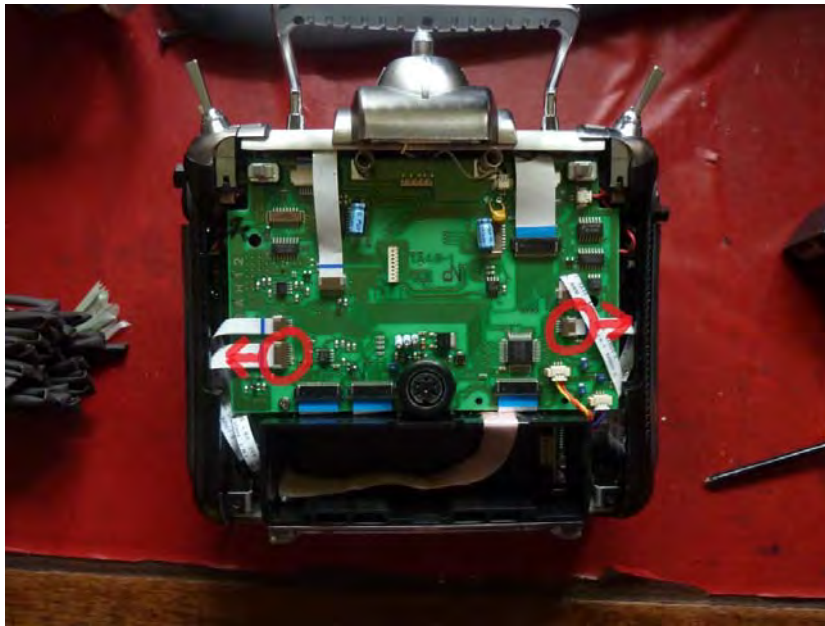

Figure 70 Remove these cables to access LCD panel
2. Pull out the two ribbon cables that prevent full access to the LCD Panel. Be careful not to pinch or kink them and apply pressure as near to blue line on them (close to the socket) as possible (see Figure 70). Remove using your fingers or a pair of pliers protected with masking tape.